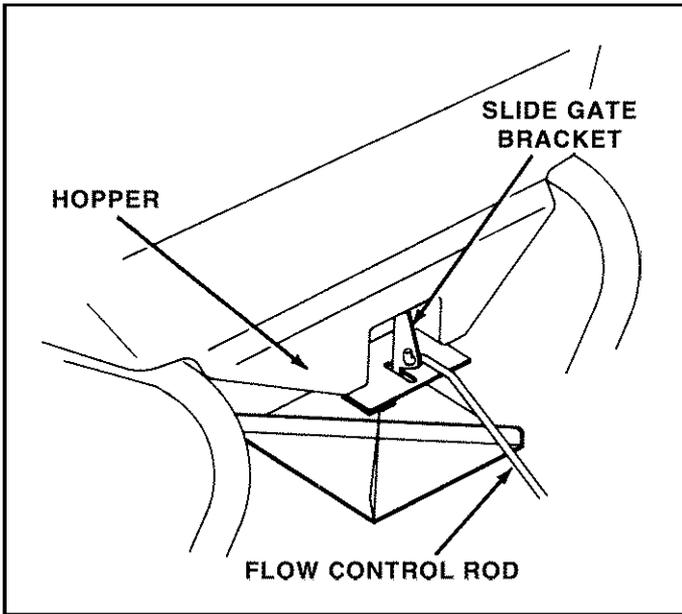

FIGURE 9
- Hook the free end of the flow control rod through the hole in the slide gate bracket located near the bottom of the hopper. See figure 9.